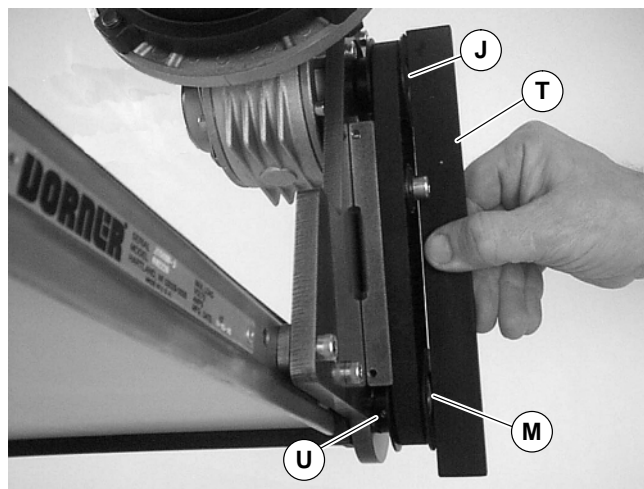

Figure 8
6. Wrap timing belt (P) around driven pulley (M) and drive pulley (J). Install driven pulley (M) onto conveyor shaft.
7. Using a straight edge (T of Figure 8), align driven pulley (M) with drive pulley (J). Tighten driven pulley set screws (U).